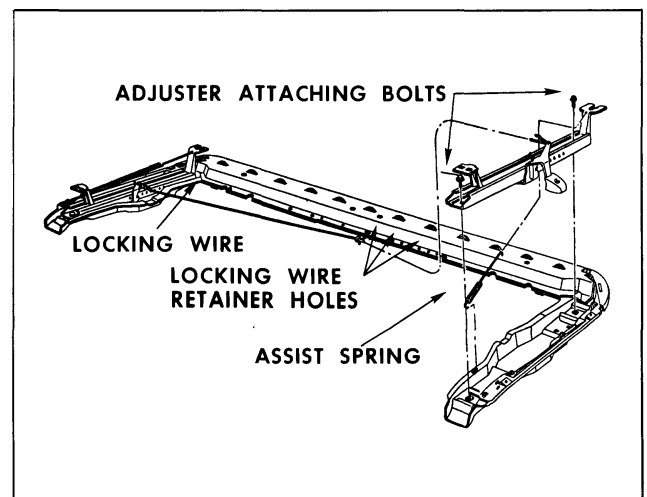

Fig. 17-1 Manual Seat Adjuster
2. Remove seat adjuster assist spring from adjuster to be removed (Fig. 17-1).
7. If adjusters do not lock or unlock satisfactorily when control handle on left adjuster is operated, disengage locking wire retainer from hole in seat bottom frame and engage retainer in one of adjacent holes to obtain proper tension in wire (Fig. 17-1).